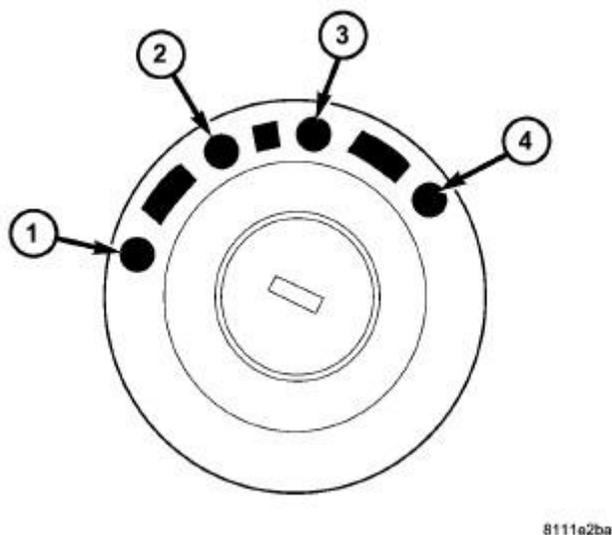

Fig. 166: Ignition Key/Switch Positions
The Brake Transmission Shifter/Ignition Interlock (BTSI) is engaged whenever the ignition switch is in the LOCK (1) position. Refer to **Fig. 166**. An additional electrically activated feature will prevent shifting out of the PARK position unless the brake pedal is depressed at least one-half inch. A solenoid in the shifter assembly is de-energized when the ignition is in the ON position and the brake pedal is depressed. When the key is in the ON position and the brake pedal is depressed, the shifter is unlocked and will move into any position. The interlock system also prevents the ignition switch from being turned to the LOCK position, unless the shifter is in the gated PARK position.